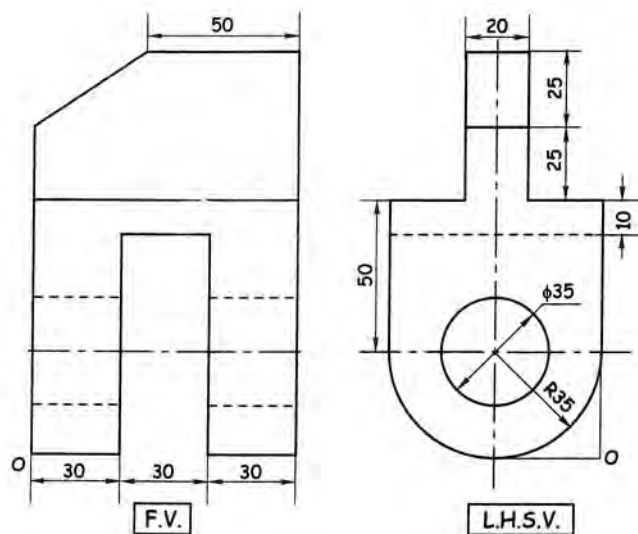

Fig. 6
8. The Figure 6 shows front view and left hand side view of a machine part. Draw its isometric projections by using isometric scale. 20